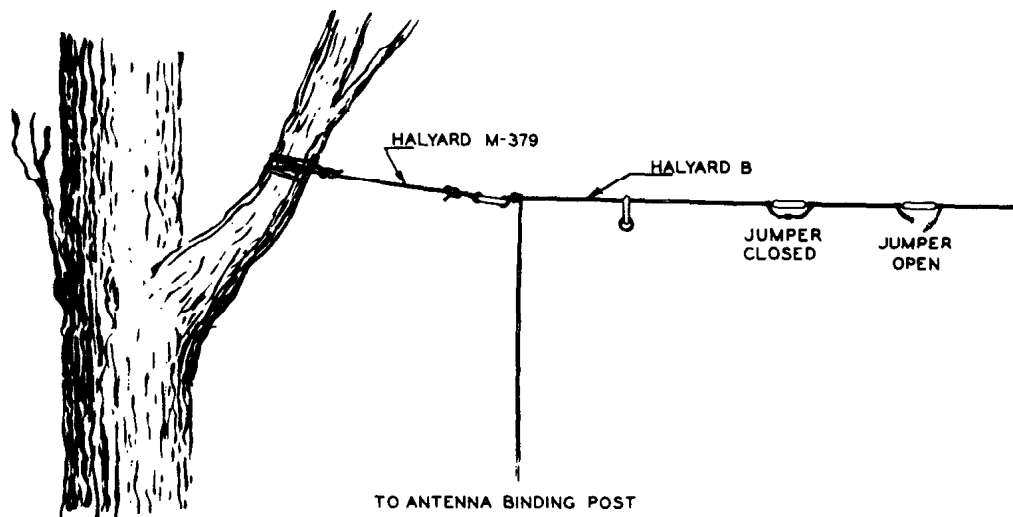

Figure 20. Antenna supports and connections.
c. Connect Antenna AT-101/GRC-9 to its support by means of Halyard M-379 as shown in figure 20.